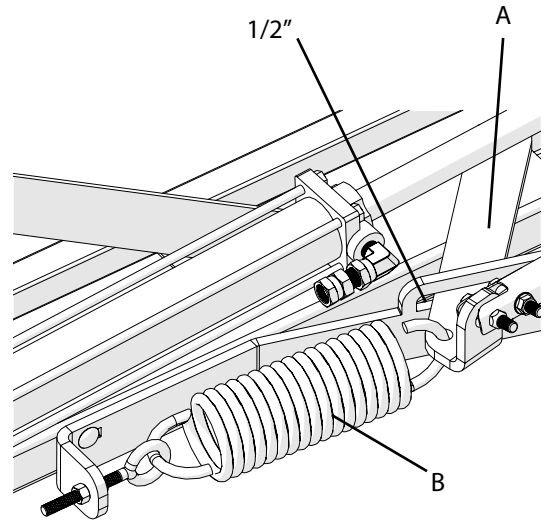

Figure 1
- The spring (Item B, Figure 1) on the front side of each wing needs to be set so that the breakaway arm (Item A, Figure 1) is 1/2" from hard stop when the wing is unfolded. This is accomplished by loosening the nuts (Item C, Figure 2) on the turnbuckle (Items D and E, Figure 2) and turning (Item D) while holding the yoke (Item E, Figure 2) in place. When the spring tension is correct retighten the nut (Item E, Figure 2).